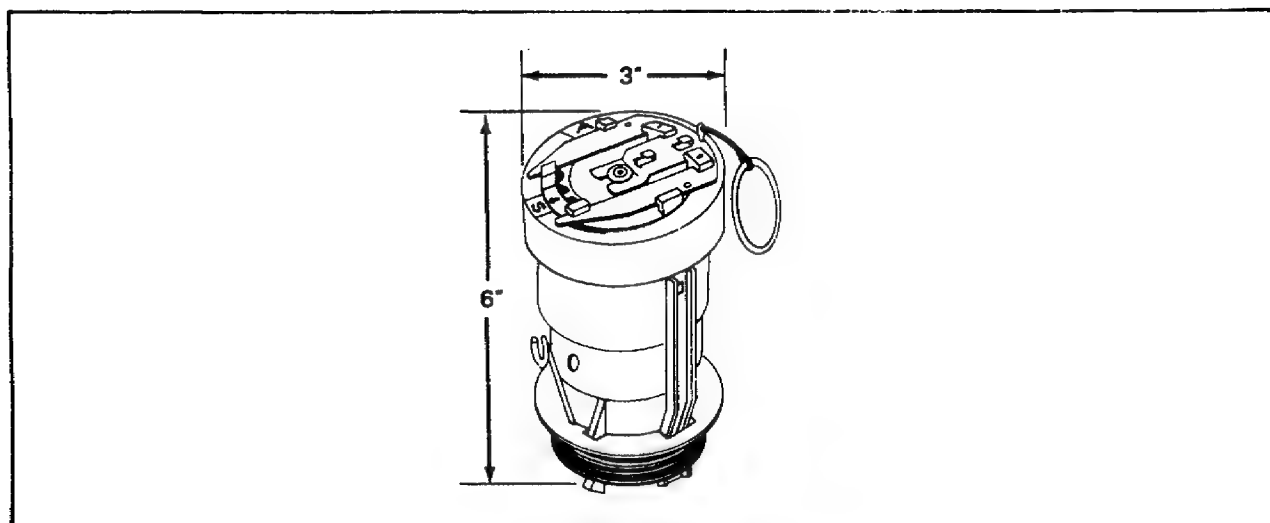

Figure 54. Mine, Antipersonnel, Fragmentation Bounding, M26.
**Mine, Antipersonnel, Fragmentation Bounding, M26.** The M26 mine (Figure 54) is a newer antipersonnel mine. It functions the same way as the M16 mine, ejecting a projectile that detonates one to two meters above the ground. It is simpler to use though, because the spools of wire and other accessories are packaged with the mine as a complete unit.